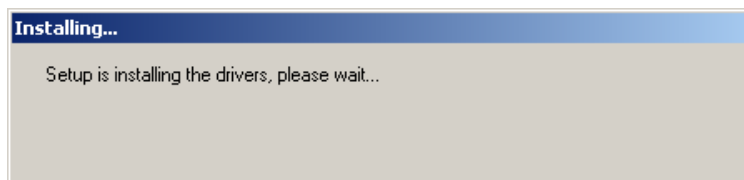

Figure 7-24: Intel® Pro Network Connections Driver Installation Notice
Step 13: Click **Install Base Driver** and an installation notice appears (Figure 7-24) as the driver is installed.